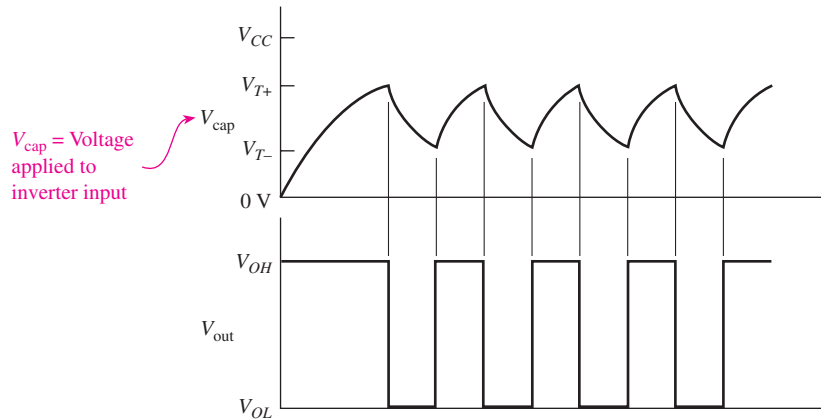

Figure 14–6 Waveforms from the oscillator circuit of Figure 14–5.
6. The cycle repeats now, with the capacitor charging back up to V_{T+} , then down to V_{T-} , then up to V_{T+} , and so on. (The waveform at V_{out} will be a square wave oscillating between V_{OH} and V_{OL} , as shown in Figure 14–6.)
- (a) Sketch and label the waveforms for the Schmitt RC oscillator of Figure 14–5, given the following specifications for a 74HC14 high-speed CMOS Schmitt inverter ($V_{CC} = 5.0$ V):